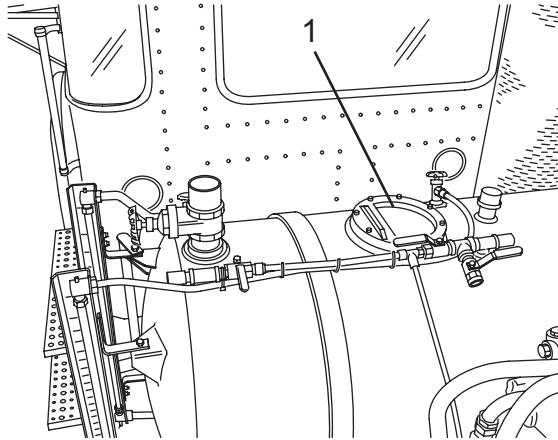

Figure 101
2. Place the water supply hose in the water tank flopper valve (Figure 101, Item 1).